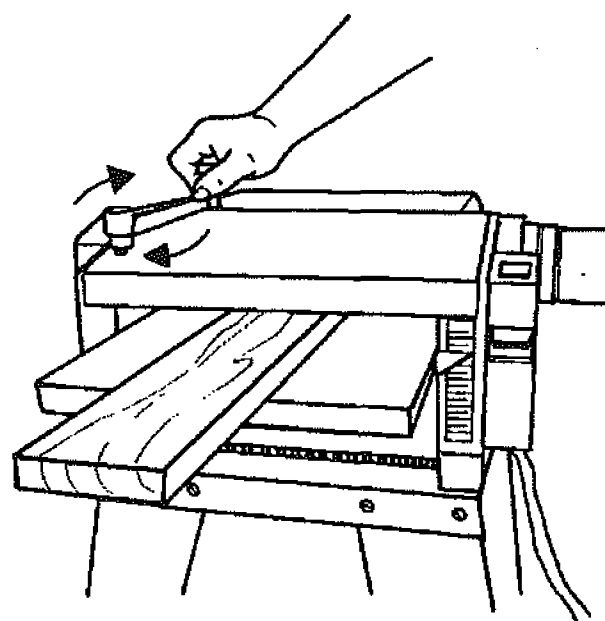
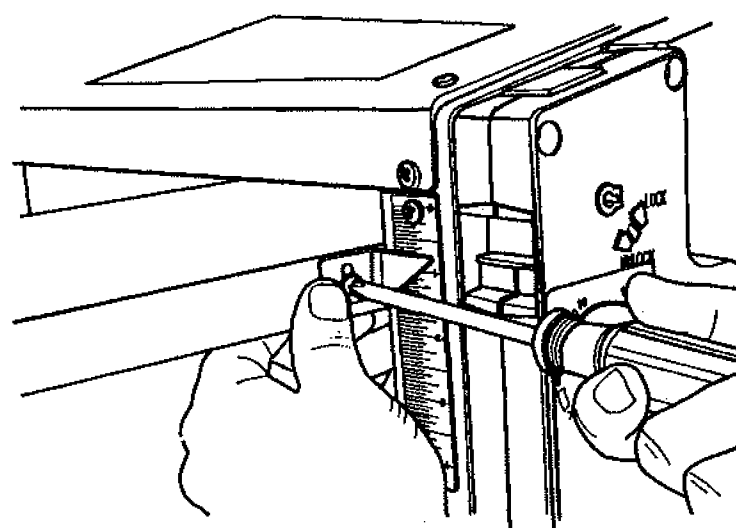

Fig. 50
Fig. 51
65. Slowly turn the table adjustment crank clockwise to raise the board into the planer knives, as demonstrated in Fig. 50. When the knives barely start cutting the board, stop cranking. Let the planer feed the board through. Do NOT touch the crank.
67. Measure the board on its planed portion. This measurement is exactly what the thickness pointer (71) should indicate.
68. To adjust the thickness pointer, use a Phillips screwdriver to slightly loosen the screw, as illustrated in Fig. 51. The screw hole in the thickness pointer is actually a slot, so move the pointer to the exact measurement of the planed board. Retighten the screw.